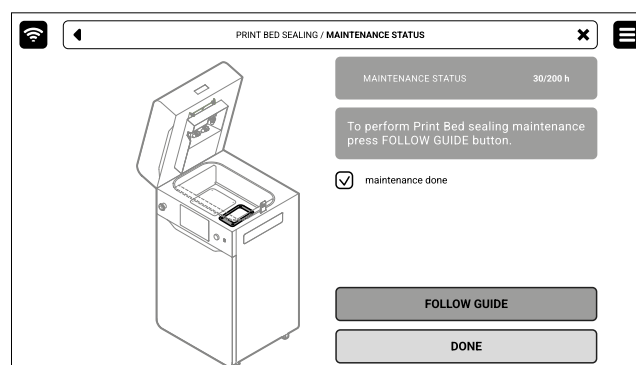

Fig. 12.18 The screen of the maintenance of the Print Bed sealing.
3. In this case, mark **MAINTENANCE DONE** once you have completed the procedure, and then the **DONE** button. The timer will reset to zero (fig. 12.18).